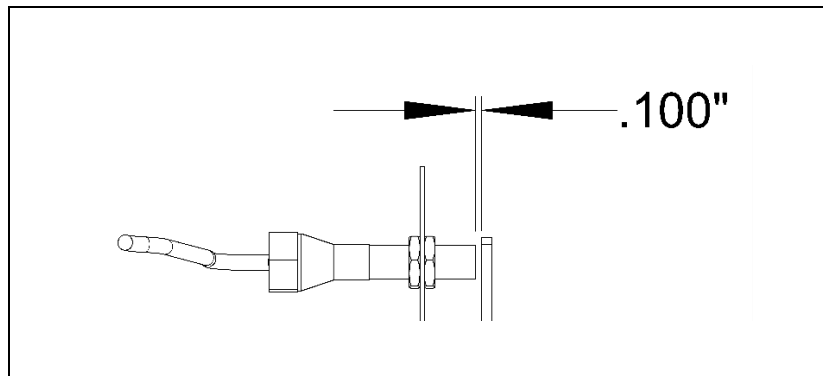

Figure 12: Proximity Switch (SEL30) Installation Spacing
4. Using a feeler gauge, adjust the SEL Switch (L1) and/or the Actuator Lever Assembly (L3) to achieve a 0.100" spacing between the sensor and the lever assembly. See Figure 12.